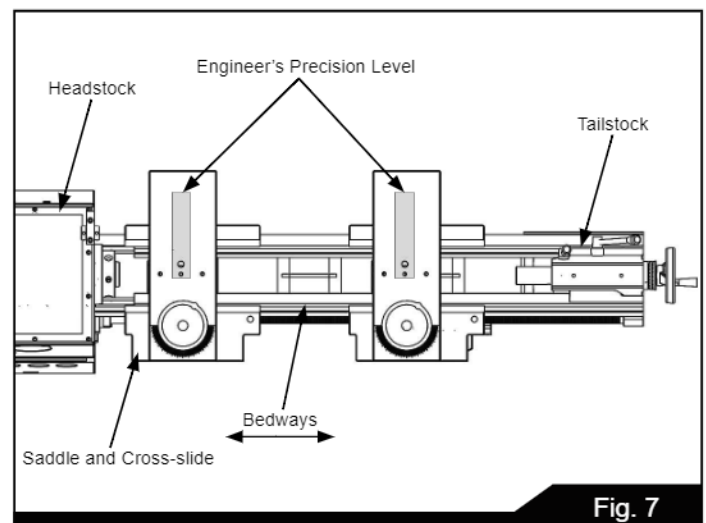

Fig. 7
**Free-standing:** Position the lathe on foundation and adjust each of the six mounting feet to take equal share of the load. Then using an engineers precision level on the bedways (as in Figure 7) adjust the feet to level up machine. Periodically check bed level to ensure continued Lathe accuracy.